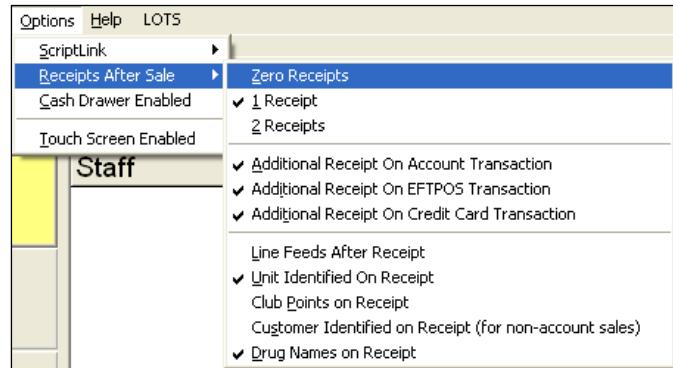

Figure 119
1. Navigate from the LOTS Start Menu → Sales → Options dropdown list → Receipts After Sale (as shown in Figure 119).